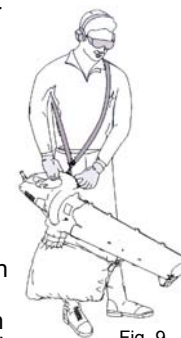

Fig. 9
5. Place the shoulder strap over your head and opposite shoulder. (Fig. 9)